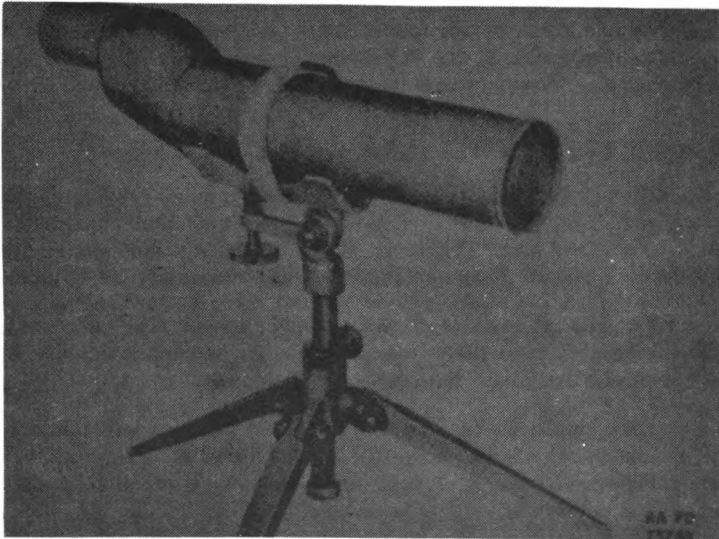

Figure 4—Observation Telescope M49 and Tripod M15
a. The Tripod M15 provides a rest for the Telescope M49 and steadies it when in use. The telescope rests in the cradle and is held in place by a leather strap (fig. 4). With the folding legs of the tripod fully extended, the eyepiece of the telescope is approximately .11 inches above the surface upon which the tripod rests. With this tripod, the telescope can be swung around to any desired position. An elevating screw is also provided for elevating or depressing the forward end of the telescope as necessity requires.